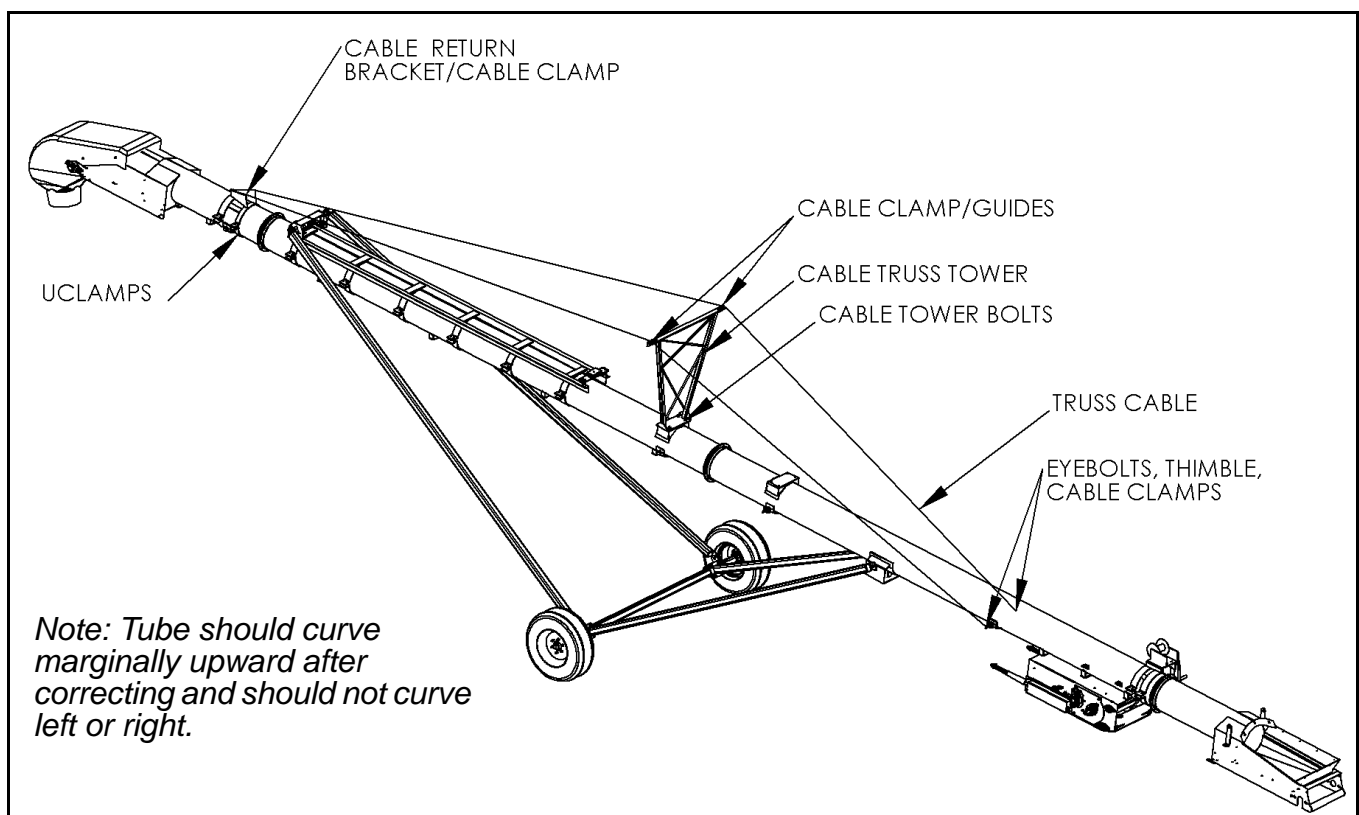

Figure 8.8 Cable Truss Assembly (A-Frame 55' Shown)
3. Starting from the innermost cables and working your way out, tighten cable eyebolts evenly on both sides until the spout just starts to bow upward (see Figure 8.8).